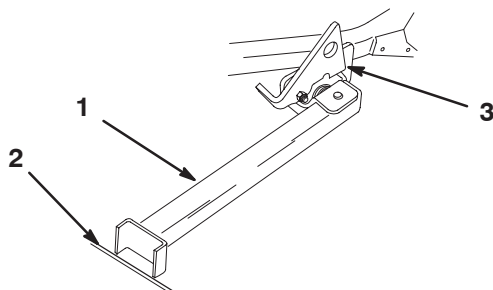

Figure 30
4. Set the foot of stand on the ground and rest the latch on the pivot tab (Fig. 30).
Note: For best results, place the foot of stand into seams in sidewalks or into the turf (Fig. 30).
6. Drive onto the stand. Stop when the latch drops over the tab into the locked position (Fig. 30). Once onto the stand, engage the parking brake and turn off the engine.